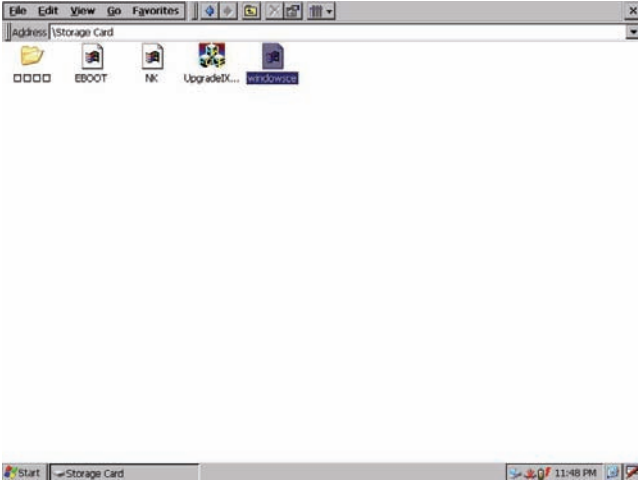

Figure 4.8: Image files and upgrade utility in CF storage card
3. Check the items you want to upgrade as shown in Figure 4.8. If you want to upgrade the boot logo, you can input the path of the bitmap file in the edit box or click the 'Browse' button to select the file.